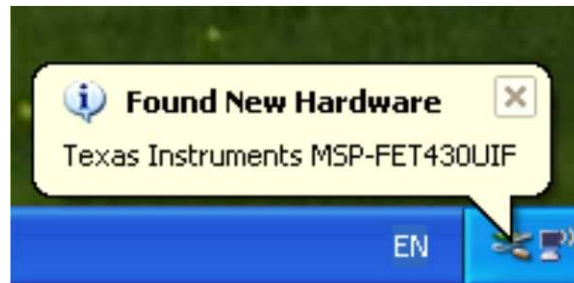

Figure B-12. eZ430-RF Windows Driver Installation
3. Windows should now recognize the new hardware as an "MSP430 XXX x.xx.xx" (see Figure B-12). The device name may be different from the one shown here.